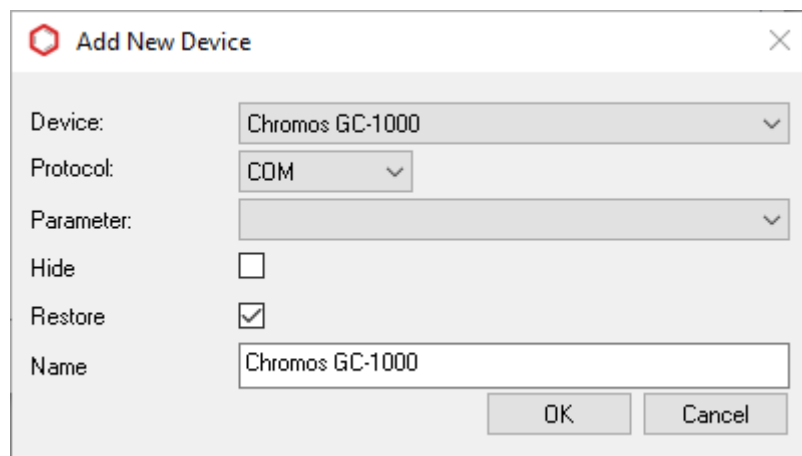

Fig. 19: Add New Device
3. To add a device, click  **Add**. The *Add New Device* window opens (Fig. 19):